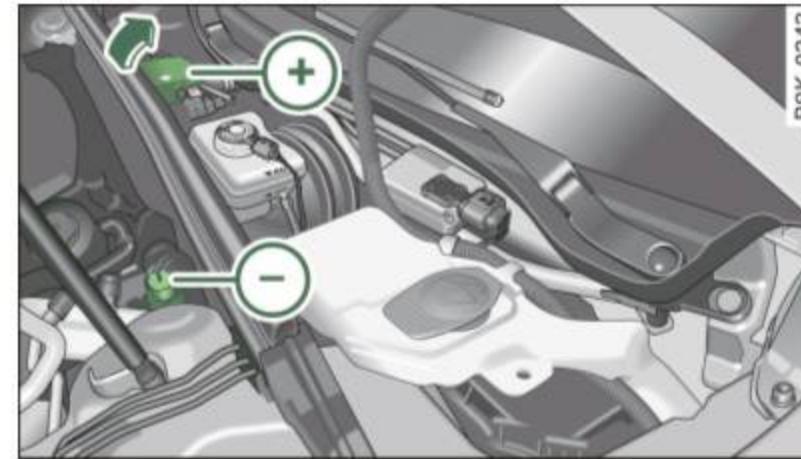

Fig. 239 Engine compartment: Connectors for jumper cables and charger
- Open the red cover on the positive pole ⇒ *page 326*, fig. 239.